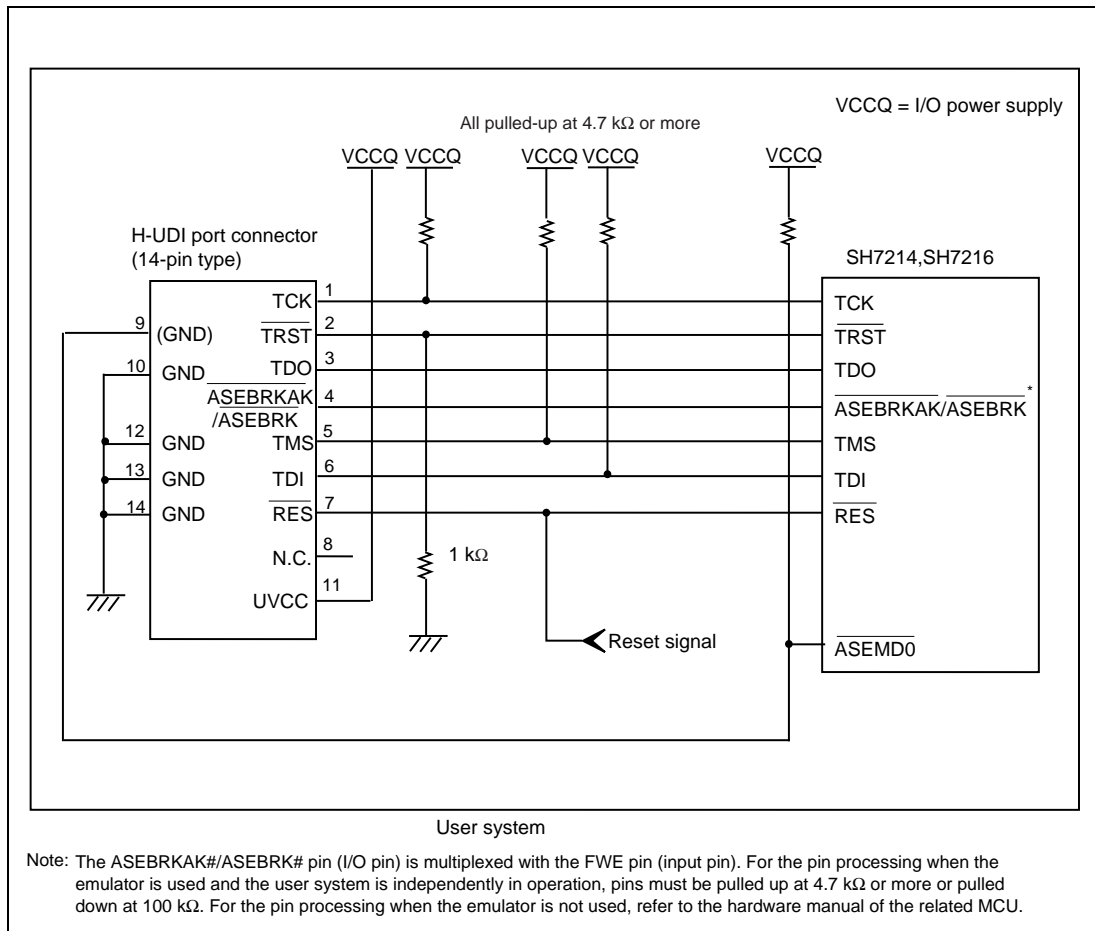

Figure 1.6 Recommended Circuit for Connection between the H-UDI Port Connector and MCU when the Emulator is in Use (14-Pin Type)
Figures 1.6 shows recommended circuits for connection between the H-UDI port connectors (14 pins) and the MCU when the emulator is in use.
- (1) When the emulator is used: ASEMD0# = 0
- (2) When the emulator is not used: ASEMD0# = 1Figures 1.6 shows examples of circuits that allow the ASEMD0# pin to be GND (0) whenever the emulator is connected by using the user system interface cable. When the ASEMD0# pin is changed by switches, etc., ground pin 9. Do not connect this pin to the ASEMD0# pin.
6. The resistance values shown in figures 1.6 is for reference.
When the circuit is connected as shown in figure 1.6, the switches of the emulator are set as SW2 = 1 and SW3 = 1. For details, refer to section 3.8, Setting the DIP Switches, in the SuperH™ Family E10A-USB Emulator User's Manual.